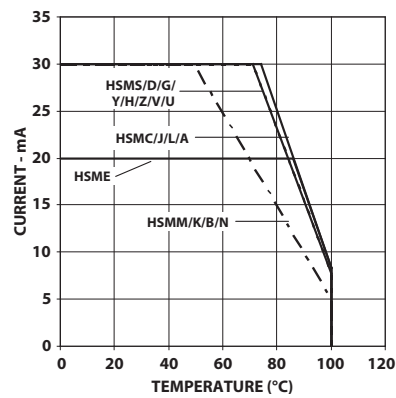

Figure 4. Maximum forward current vs. ambient temperature. Derated based on $T_{JMAX} = 110^{\circ}\text{C}$, $R\theta_{JA} = 500^{\circ}\text{C/W}$.
1. Derate linearly as shown in Figure 4.